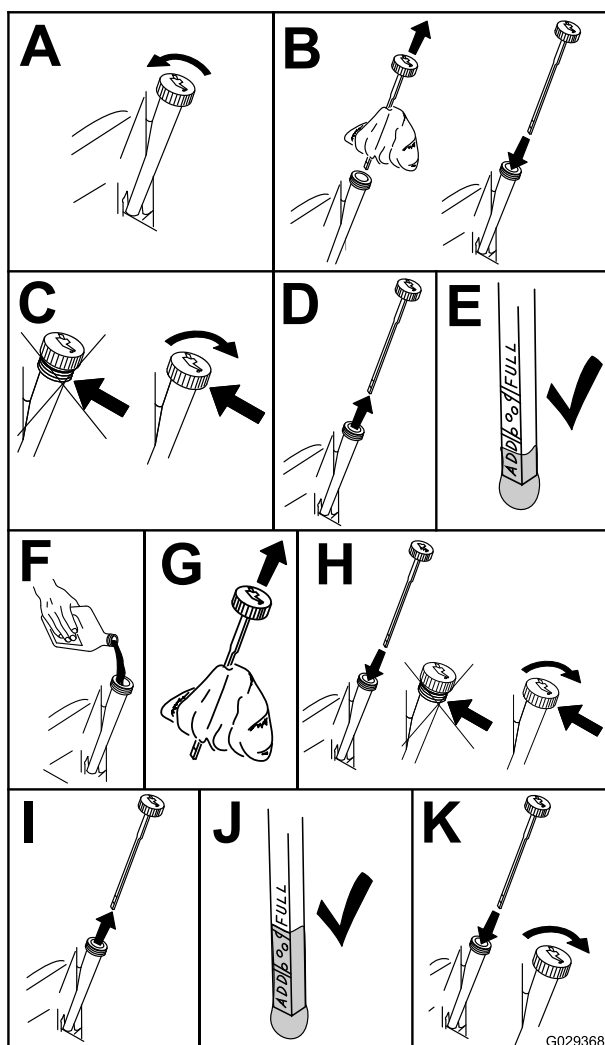

Figure 37
6. To keep dirt, grass clippings, etc., out of the engine, clean the area around the oil-fill cap and dipstick before removing it (Figure 37).